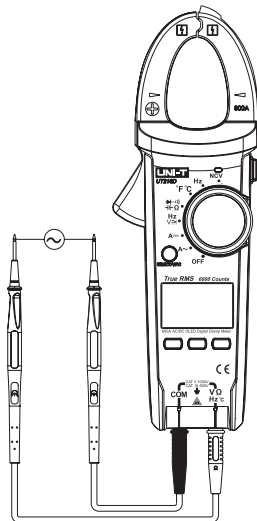

Fig. 11
10. Measurement of frequency (shown as Fig. 11)**(1) Insert pens**